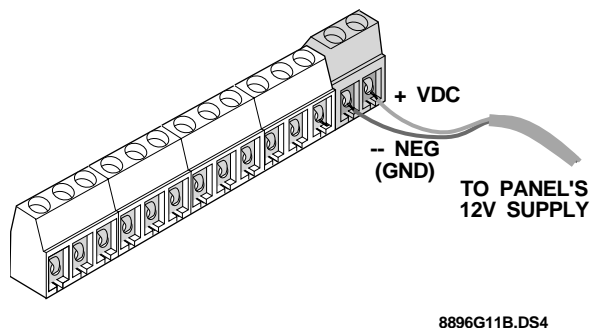

Figure 8. Connecting Panel Power to the Receiver
- 2) Wire receiver terminals (GND) and (+12V) to a non-switched 12V supply output on the control panel. Make sure you observe the correct polarity (see Figure 8).